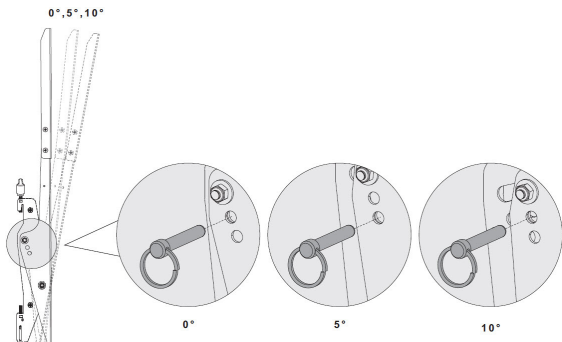

Figure 2
3. Insert a **Tilt Pin** into the **Tilt Pin Hole** on the side of the **Display Mounting Bracket**. (Figure 2)